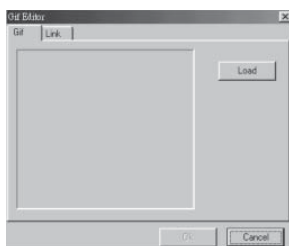

Fig. 4-28 Insert Animated Picture 1
1. Click the button and move the mouse to the drawing interface, the dialogue block as in Fig. 4-28 will be displayed.
1. Click the button  and move the mouse to the drawing interface, then the dialogue frame as in Fig. 4-28 will be shown in the system as below.